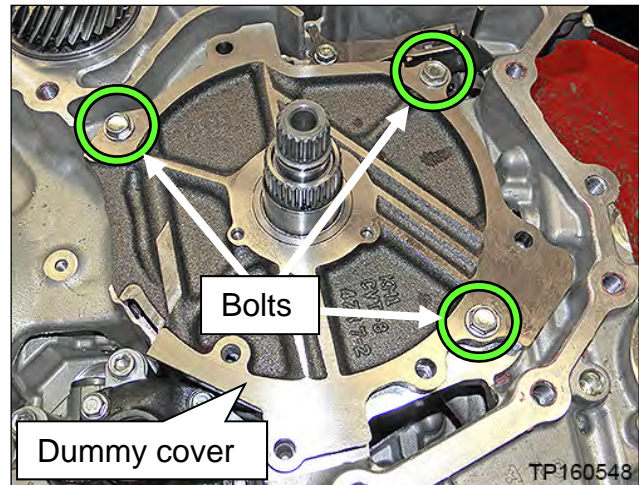

Figure 71
48. Temporarily install the dummy cover with 3 bolts, finger tight (Figure 71).